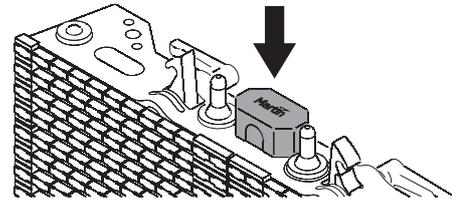

Figure 2: Connector cap
- Remove the supplied rubber connector caps (see Figure 2) and store them safely for re-use.
4. See Figure 2 on page 3. Any panel connectors that are not being used must be sealed with the supplied rubber caps (arrowed) at all times.